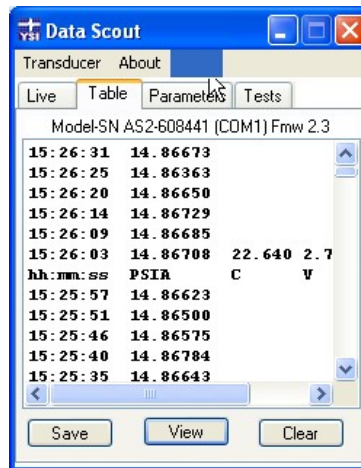

Figure 3.20
1. Position the cursor *directly to the right* of the ‘About’ menu item and click the hidden menu that highlights blue (Figure 3.20).